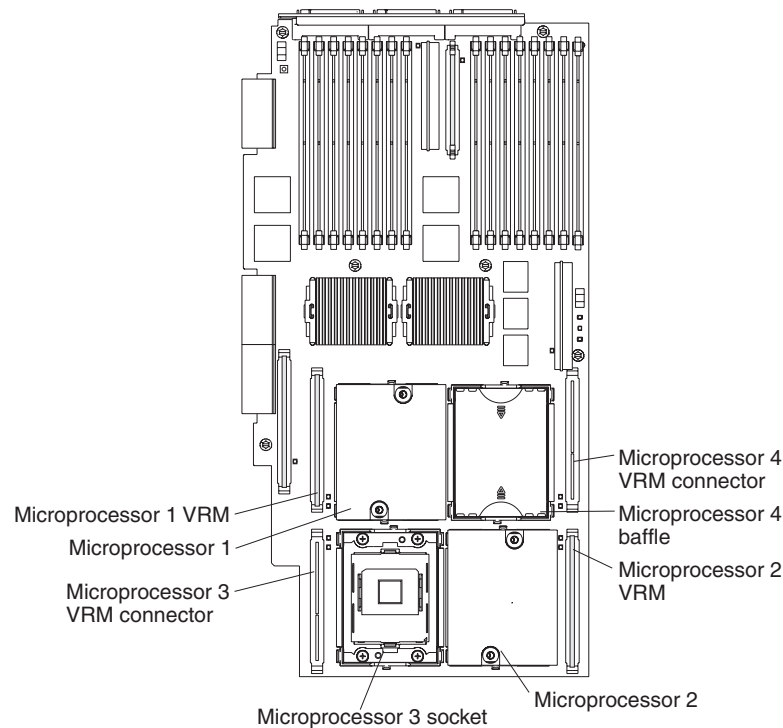

Figure 47. Microprocessor connector and VRM locations
- Intel Xeon MP microprocessors are supported in microprocessor sockets 1, 2, 3, and 4. Figure 47 on page 49 shows the location of the startup microprocessor and its VRM on the SMP expansion board. It also shows the microprocessor baffles and the VRM slots for the other microprocessor sockets.